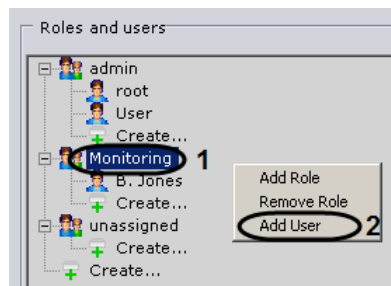

Fig. 6.10—4 Registering a user
1. Select a role in the user tree (Fig. 6.10—4, 1).
2. Bring up the context menu of the user tree by right-clicking with the mouse (see Fig. 6.10—4, 2).